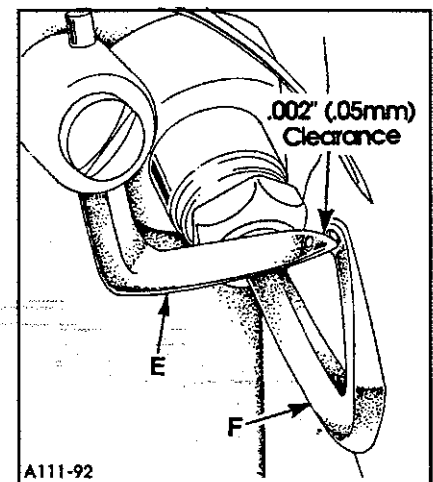
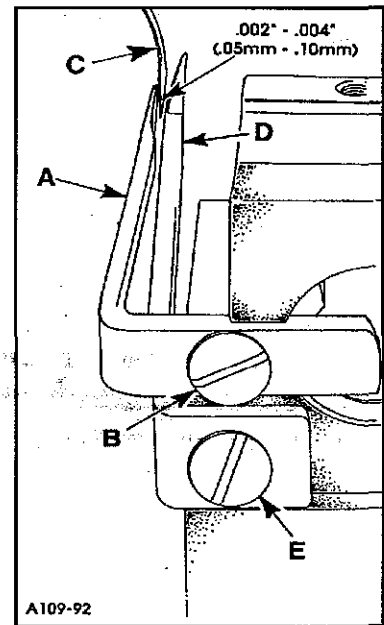

Fig. 11
Fig. 13
3. Rotate the handwheel in operating direction. As the looper/spreader (E, Fig. 11) moves from right to left, the point of the upper looper or the thread pick-up of the upper spreader must pass behind the notch of lower looper (F) with a .002" (.05mm) clearance.
| 39500                         | "B" Fig. 11                 |             | "G" Fig. 13               |             | "L" Fig. 13                        |             |
Remove the throat plate and attach rear needle guard (A, Fig. 13) to the lower knife support block with screw (B). Set the guard dead against needle (C) when the needle is being deflected forward by the point of the lower looper; As outlined in Table IV. This will allow the looper to pass the back side of the needle without deflecting it but also maintains minimum clearance. The rear needle guard maintains the looper-needle relationship at loop taking time. The position of the guard should not interfere with the lower looper or movement of the lower knife holder.
Turn the handwheel in operating direction until the needle is resting on the rear needle guard and the looper point is behind the needle. Attach front needle guard (D, Fig. 13) to the lower knife holder block with screw (E). There should be a clearance of .002" to .004" (.05mm to .10mm) between the needle and the front needle guard. There should be no interference between the front needle guard and the differential feed dog.